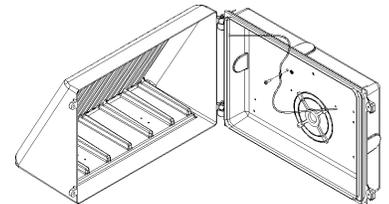

FIG.3
2. Screw the two green/yellow grounding wires to the position indicated in (FIG. 3).